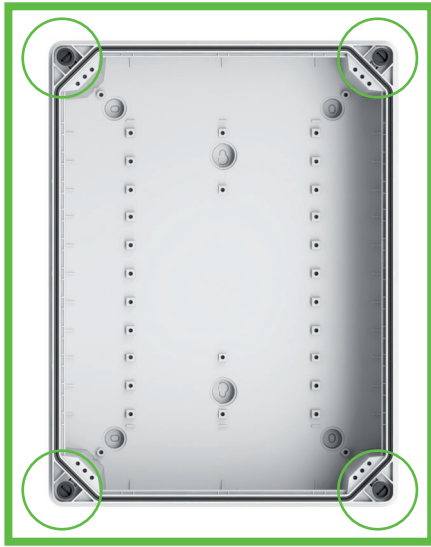

Figure 4: Fixing points
- ▶ Mark the fixing points (Abb. 4).